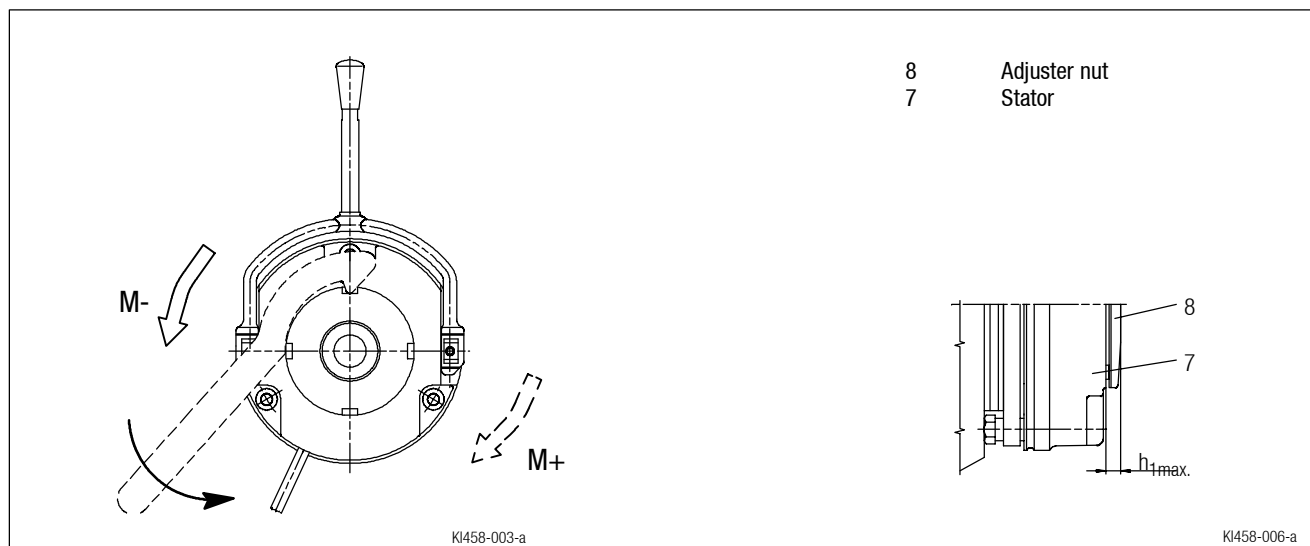

Fig. 18
1. Pull the lever (Fig. 18) with approx. 150 N towards the motor until the resistances increase strongly.